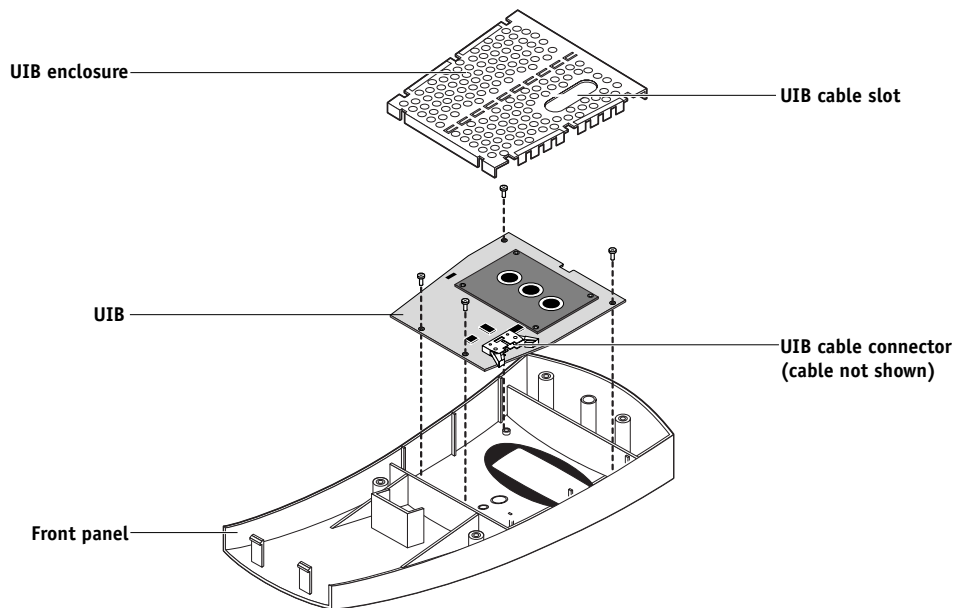

FIGURE 4-11 Removing the UIB
5. Remove the four screws that secure the UIB to the inside front panel (see Figure 4-11). Lift the UIB out of the front panel.